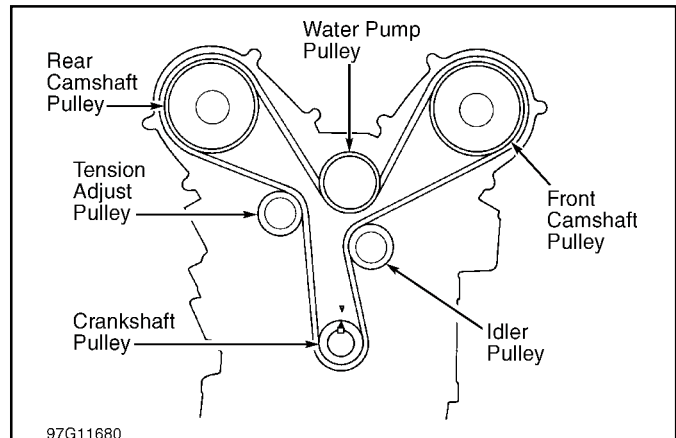

Fig. 6: Installing Timing Belt
- On all models, install timing belt in following sequence: Crankshaft pulley, idler pulley, front camshaft pulley, water pump pulley, rear camshaft pulley and tension adjust pulley. See Fig. 6. Ensure crankshaft and camshaft pulleys remained aligned with marks on back cover. Tighten idler pulley bolt.